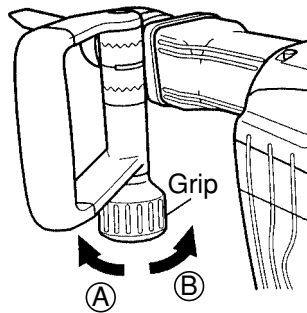

Fig. 11
The side handle can be adjusted by 360° rotation and also allows operation from front to rear. Loosen the handle by turning the grip in (A) direction and adjust the handle to a convenient position. Turn the grip in (B) direction to fix the side handle. (Fig. 11)